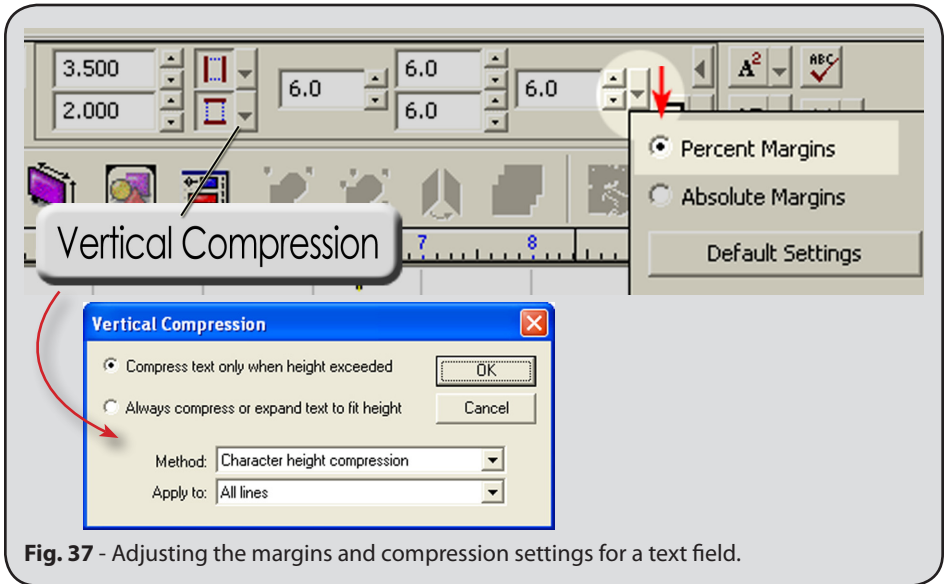

Fig. 37 - Adjusting the margins and compression settings for a text field.
11. Click the **Vertical Compression** button (Fig. 37) to open the **Vertical Compression** dialog.